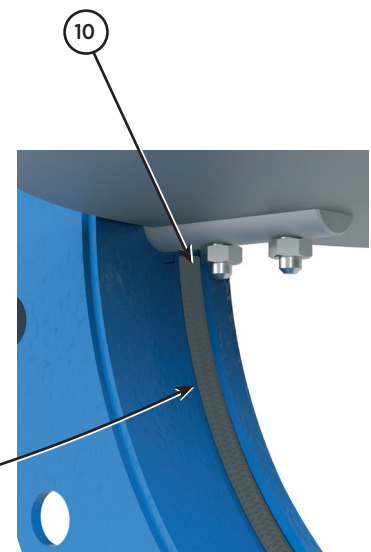

Fig. 15
- 4.- Extract the two sealing strips (10) using a pointed instrument (fig. 15). One of these seals is in front of the rim and the other behind the other rim.